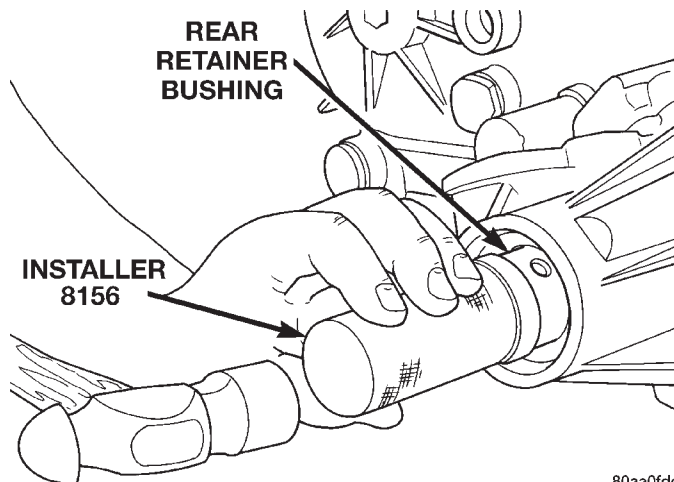

Fig. 10 Extension Housing Bushing Install
- (1) Clean fluid residue from sealing surface and inspect for defects.
- (2) Position replacement bushing in extension housing with fluid port in bushing aligned with slot in housing.
- (3) Using Installer 8156, drive bushing into housing until installer seats against case (Fig. 10).